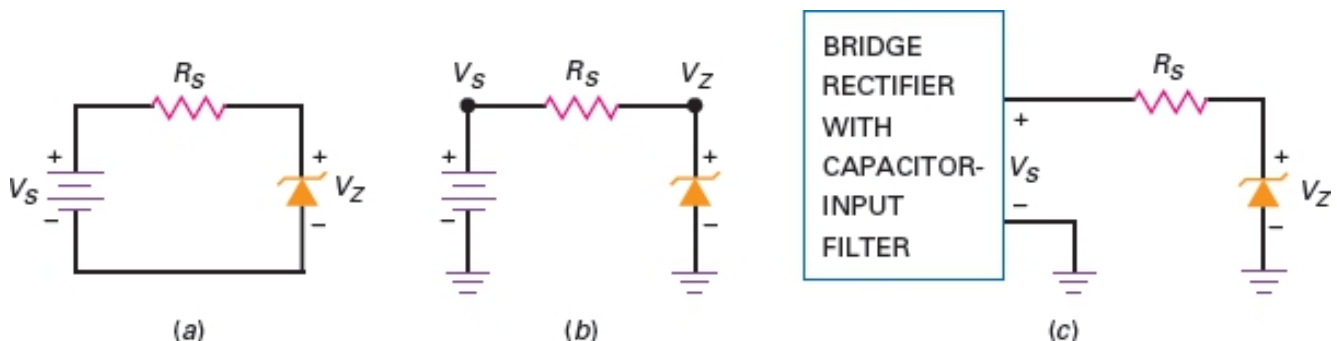

Figure-2 Zener regulator. (a) Basic circuit; (b) same circuit with grounds; (c) power supply drives regulator
- In Figure-2, the voltage across the series or current-limiting resistor equals the difference between the source voltage and the Zener voltage. Therefore, the current through the resistor is:
- Once you have the value of series current, you also have the value of Zener current. This is because Figure-2 is a series circuit. Note that  $I_S$  must be less than  $I_{ZM}$ .